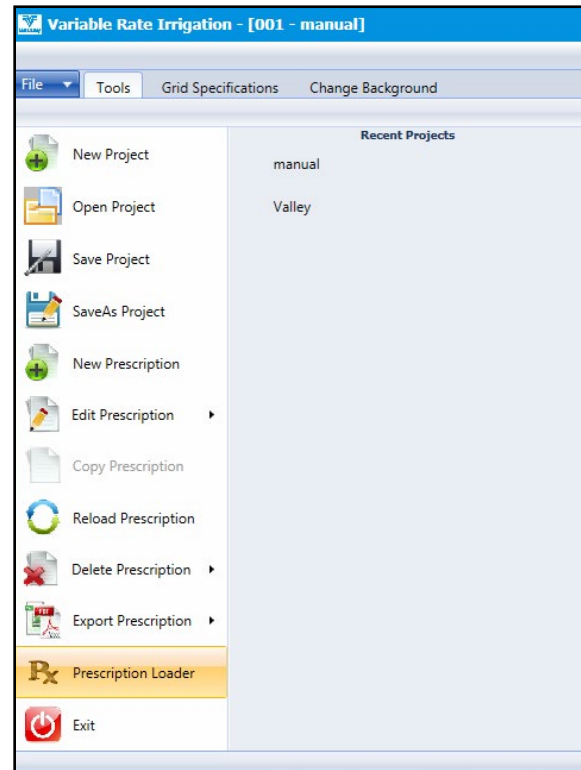

Figure 40-1 Select Prescription Loader
2. Select **Prescription Loader** in the VRI drop-down menu. See Figure 40-1.